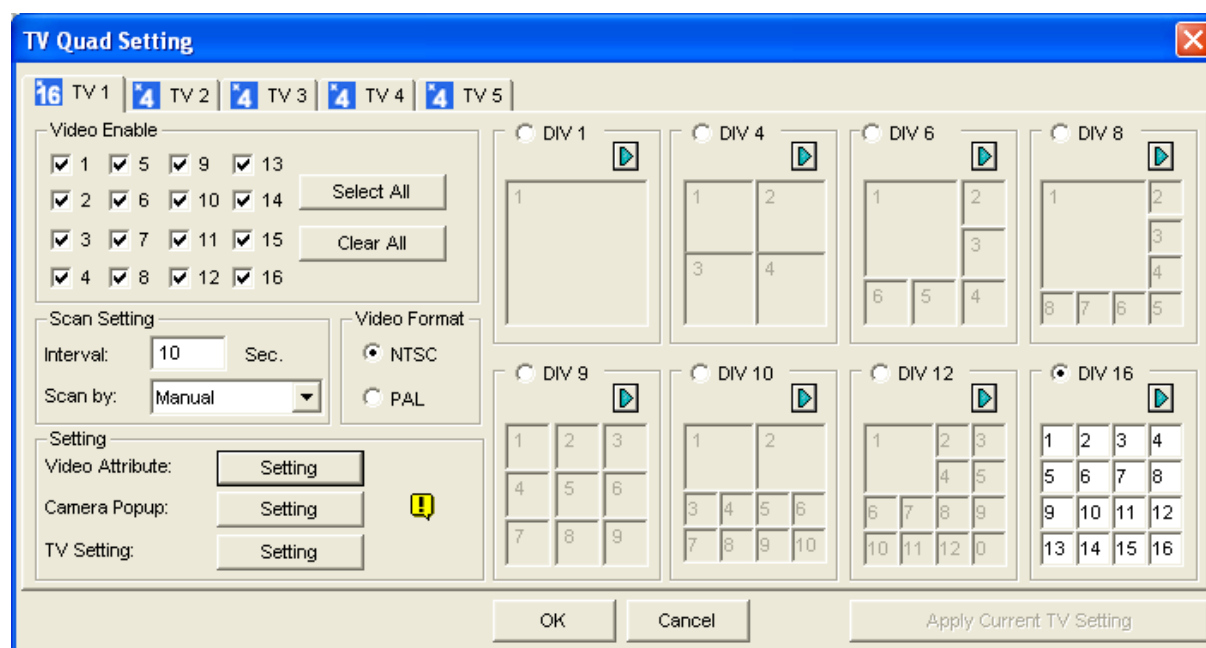

Figure 1-94
[DIV 1-16] In the TV Quad Setting window (see *Figure 1-94*), there are screen division options. You can modify the channel sequence by typing the number directly on each division. Click **OK** or **Apply Current TV Setting** to apply your configurations.
1. Click the **Configure** button, and select **Quad Spot Monitors Setup**. The TV Quad Setting window (see *Figure 1-94*) appears.